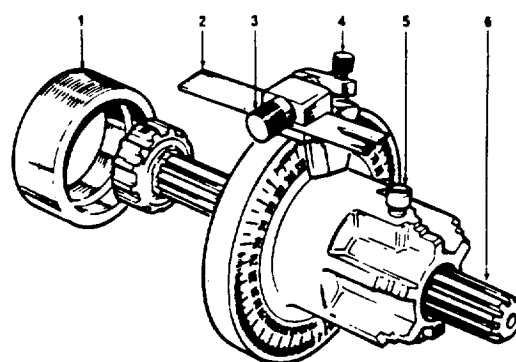

Fig. N.10.
1. Release screw (5, Fig. N.10) and position splined shaft with the small splined diameter to the rear to locate in the fuel pump drive shaft.
2. Ensure that the slotted pointer (2) is positioned with slot to rear of tool and chamfered sides of slot outwards. At this stage, slotted end of pointer should be kept well back towards the body of tool. Ensure that the flat in the washer fitted behind the pointer locating screw (3) is located over the side of pointer.
3. Release bracket screw (4) and set bracket so that the chamfered edge is in line with the relevant marking angle (see Page B.11).